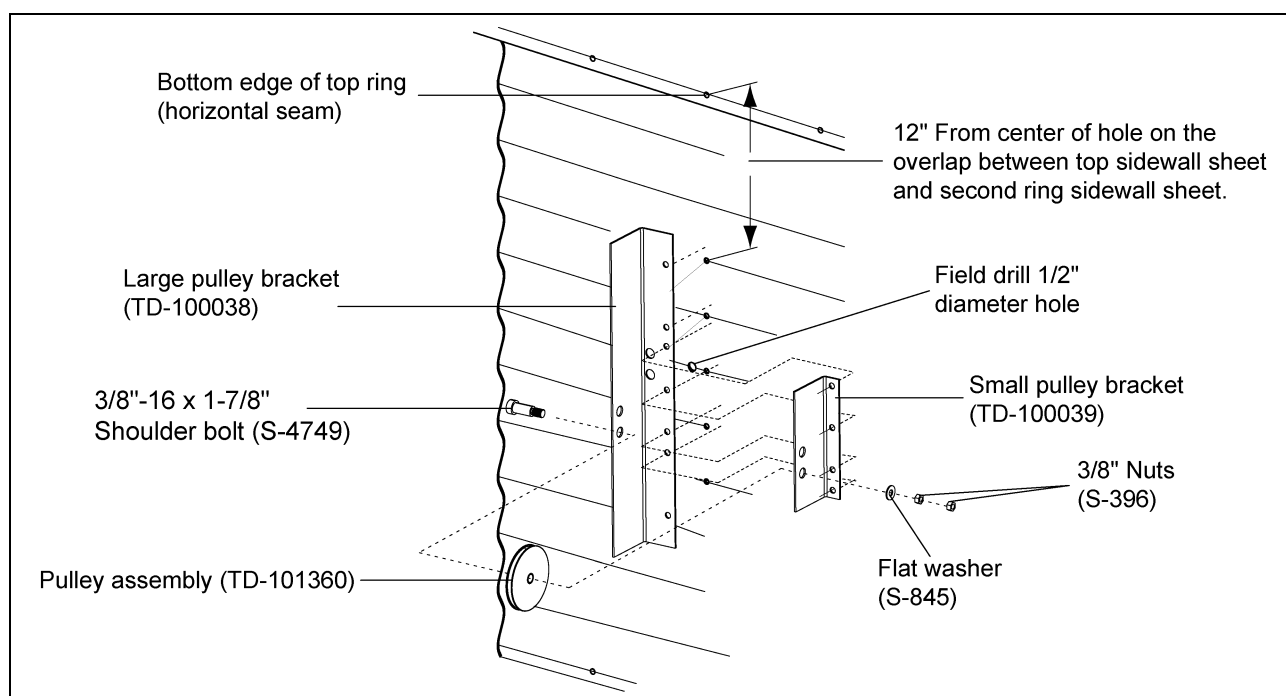

Figure 9E
Field drill five (5) 3/8" diameter holes as shown at left. Attach the pulley assembly with 5/16" x 3/4" bolts with the neoprene on the inside of the bin. (See Figure 9E.)